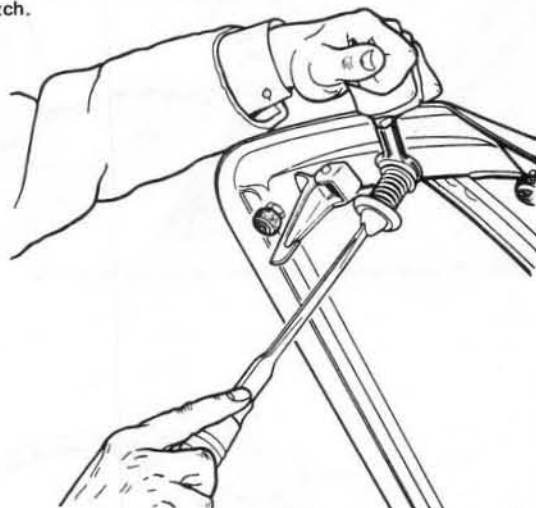

Fig.12.24. Removing the bonnet lock peg
- 2 Using the screwdriver slot in the peg, unscrew it and remove it complete with the locknut, two washers and the spring (Fig.12.24).